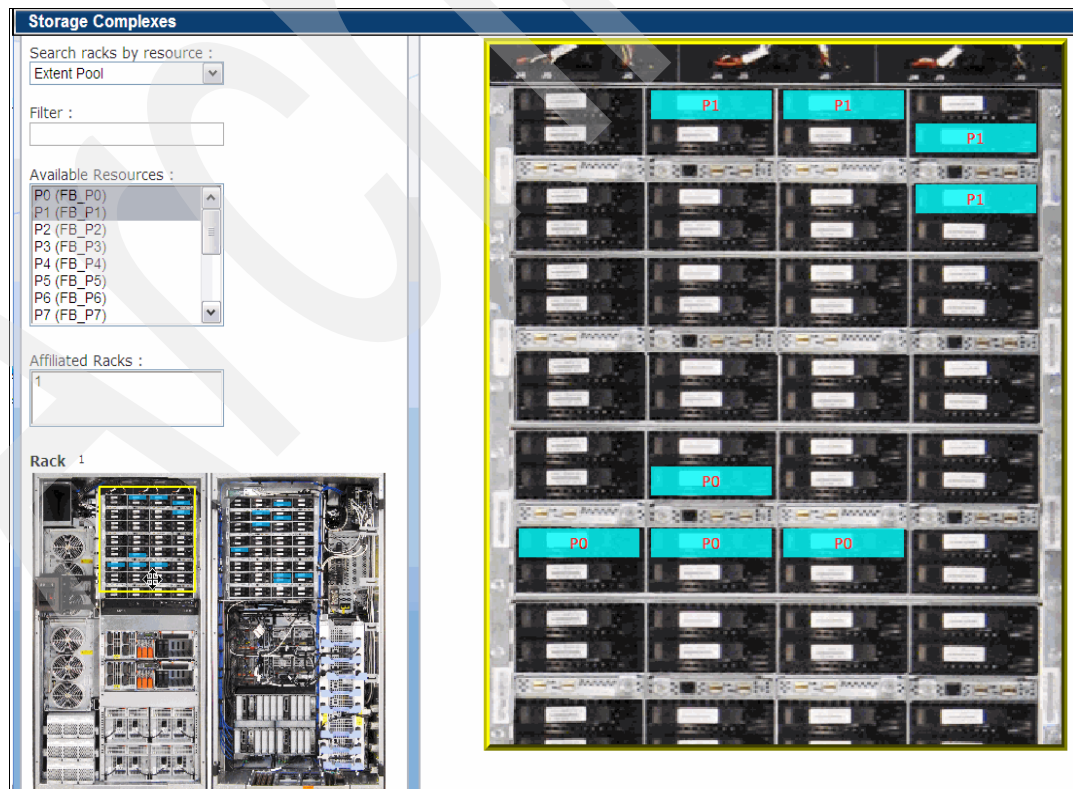

Figure 13-81 View Extent Pools
- Change the search criteria to **Extent Pool** to discover more about each Extent Pool location. Select as many Extent Pools as you need in the Available Resources section and find the physical location of each one, as shown in Figure 13-81.